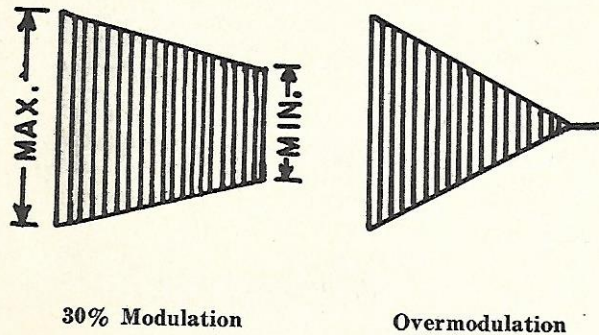

Figure 7.21—Trapezoidal Patterns
7.21 For method 2, tap off of the modulator output a small amount of modulating voltage and apply it to the horizontal amplifier. SWEEP FREQUENCY switch must be at HOR. AMP. position. This will produce a trapezoidal pattern of the carrier similar to Figure 7.21.